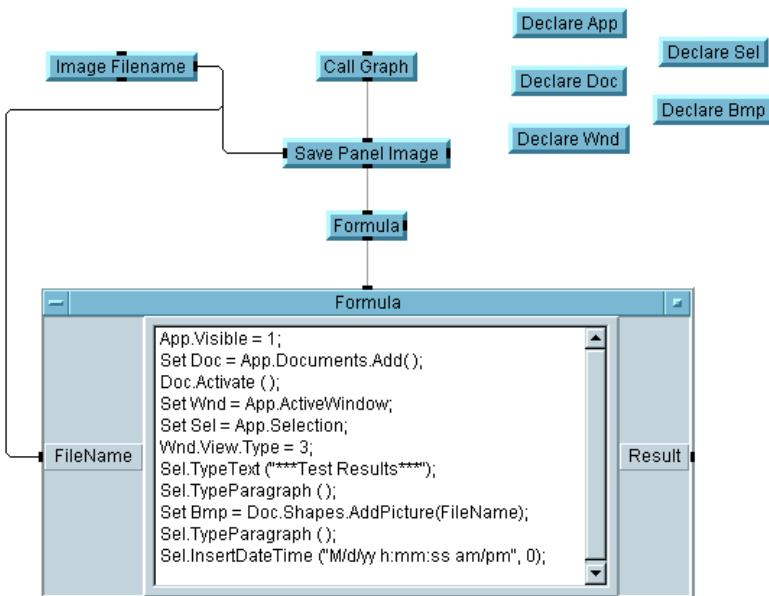

Figure 6-16. Adding the ActiveX Statements
7. Click Device \Rightarrow Formula and enter the statements shown in Figure 6-16, which are also described below. Rename input terminal A to FileName. Connect the data input and sequence input pins as shown in Figure 6-16.
In Figure 6-16, notice that you can nest property and method calls together with the Object's dot notation. Refer to ActiveX documentation to find the right properties in the target applications. You can use the properties and methods described in this chapter to begin generating test and measurement reports. The entries in the Formula object are as follows: